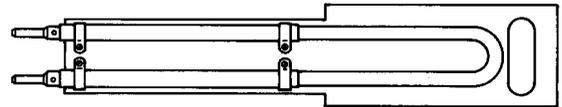

Fig. 2—451A Plug
**2.02 451A:** The 451A (Fig. 2) is a twin, through-plug consisting of two 436A plugs, connected by a 728A cable, mounted on a red nylon plate. The 451A plug is used in the L4 Coaxial System.